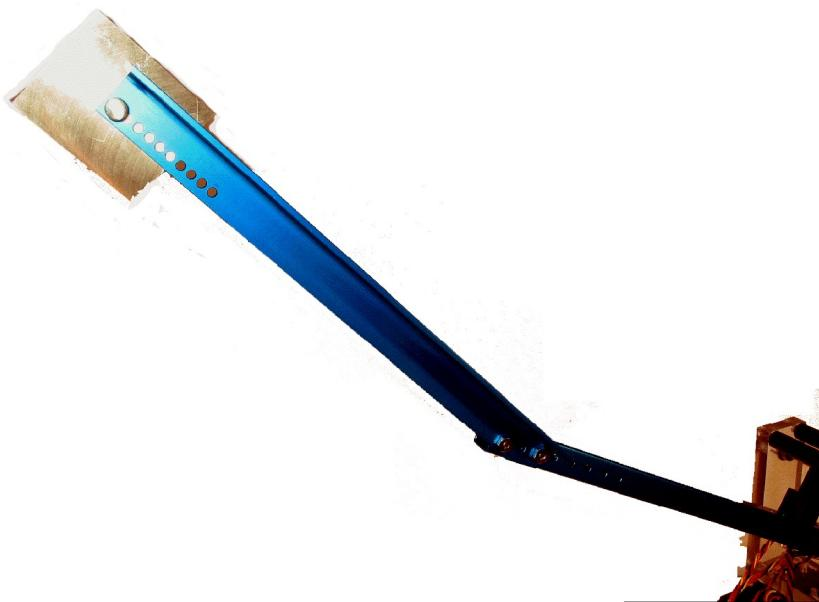

Figure 9: Counterweight and secondary arm setup.
8. As illustrated in Figure 9, attach the secondary arm to the end of the main arm, ID #6 in Figure 3, and tighten two screws through the nuts. The angle of the secondary arm relative to the main arm has been selected such that the effective mass at the helicopter end is relatively constant.
**NOTE: When using the Active Disturbance System, set the counterweight to the 0 g position, as depicted in Figure 9.**